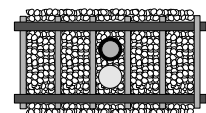
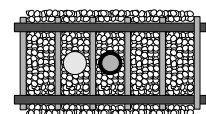
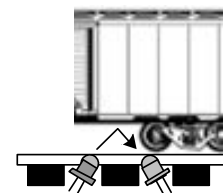

Figure 6a
Figure 6b
Figure 6c
The *Signal Animator* provides automatic operation of 3-color block signals in a semi-prototypical way. An Infrared (IR) emitter and detector are used for train detection. Detection is achieved when the IR beam from the emitter reflects off the underside of the train back down to the detector. **Despite the use of infrared components you could still encounter false triggering from overhead lighting. This is usually eliminated with angled sensor mounting (Figure 6c) and/or proper sensor sensitivity adjustment (page 3).** This version of the *Signal Animator* must be powered from either a 7-9V AC or 9-12V DC power source. Do NOT exceed these limits! Whenever the sensor is activated by any portion of a train the signal will turn red. Once the sensor is cleared the *Signal Animator* will delay (10 or 30 seconds; see below) and then change the signal to yellow. After another delay the signal will be changed to green.
The IR components should be mounted between the rails. Drill two 11/64" holes, approximately 1/4" apart, through the ballast, roadbed, and sub-roadbed. For the smaller scales this drilling may end up hitting the ties. Take your time so you don't mangle them! Figure 6a illustrates the suggested placement of the IR components between the rails; you may also locate them a tie apart from each other (Figure 6b). Insert the leads of one IR emitter (white and black wires) into one of the holes (it doesn't matter which one!) from the top of your layout. Repeat for the IR detector (blue and black wires). The tops of the components should sit no higher than the top of your ballast for optimal IR performance; in some cases (e.g. false triggering) it may be necessary to locate the components a little below the ballast line. You can extend the leads with similar (or larger) wire. We recommend soldering and insulating these connections. Once you have wired the IR components and verified their operation you may wish to put a dab of white glue or silicone caulk where the wires exit the holes underneath the layout. This will help to hold the components in place; make sure you don't get any substance (e.g. ballast or glue) on the top surface of the IR components as this may prevent them from operating properly. **Figure 6c is a variation of Figure 6b. In this case the IR components are mounted at an angle to each other. The benefit of this method is reduced false triggering from overhead light and increased detection reliability in smaller scales or irregular bottoms on rolling stock.**